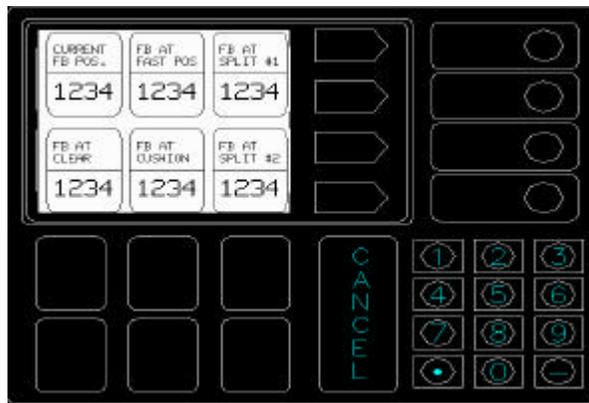

Figure 1
3. Start the hydraulic pump. Hydraulic pressure is needed to manually move the flight bar. Manually move the Flight Bar from Home Position forward until it touches the product placed on the Roller Deck by the Meter Belt (or pusher). Then read the count from CURRENT FB POS. This is located on the Panelmate screen "page 0", see figure 1. This is the FB AT FAST POS. Record the count on a sheet paper.